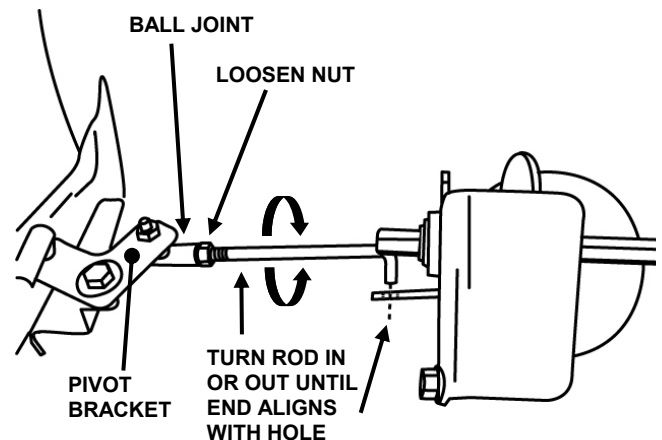

FIGURE 4.11
4. Loosen jam nut securing transfer rod to ball joint on pivot bracket. See Figure 4.11.